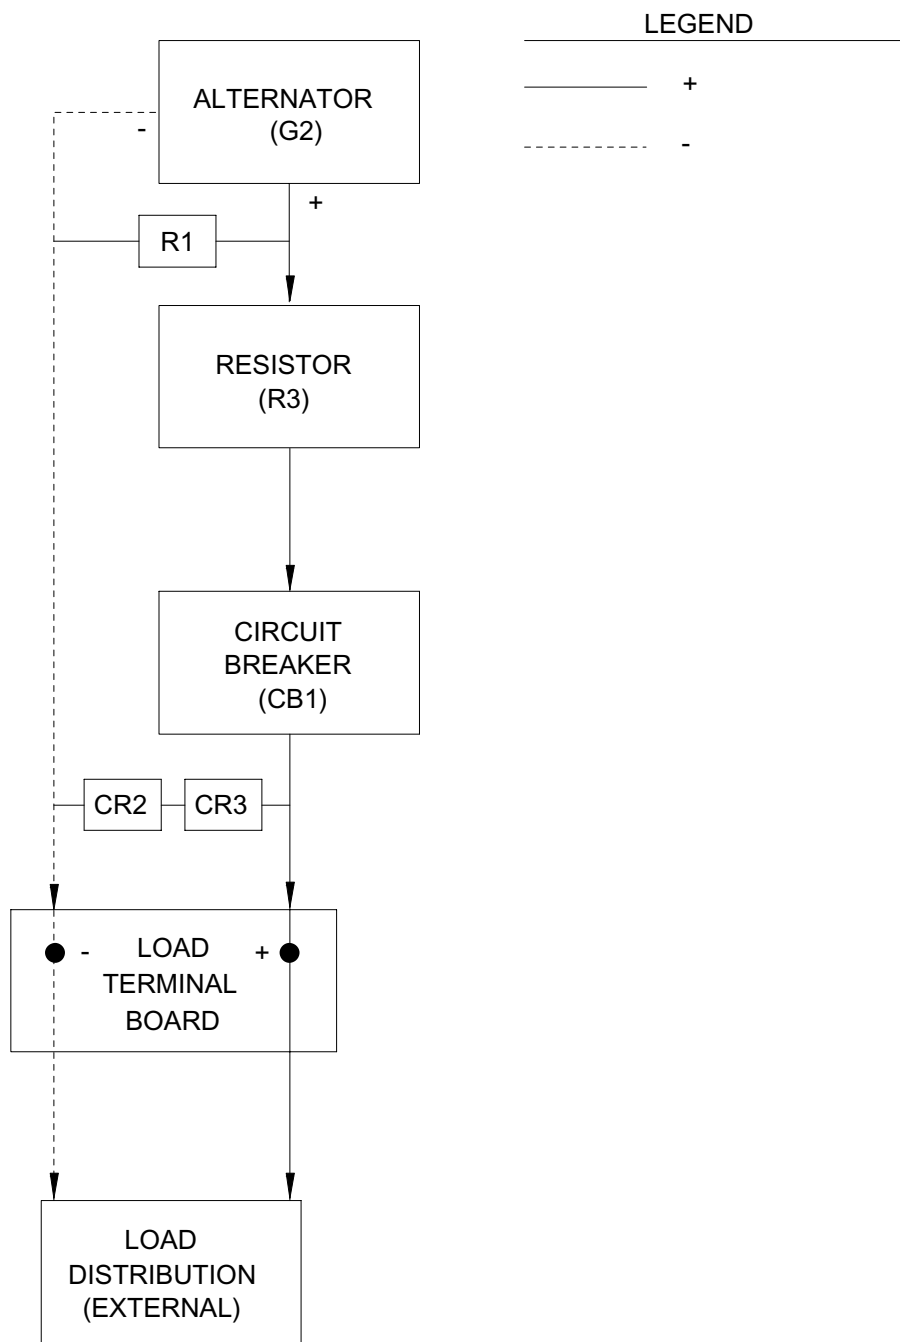

Figure 1-10. Generator Output Supply System (MEP-501A)
1.22.4. Output Supply. (Figure 1-10)